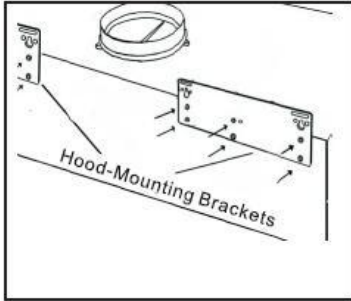

Fig. 2a
- f. Install the hood mounting bracket to the back of the unit and secure it with the (12) screws provided. (6 screws for each bracket) **(Fig. 2a)**